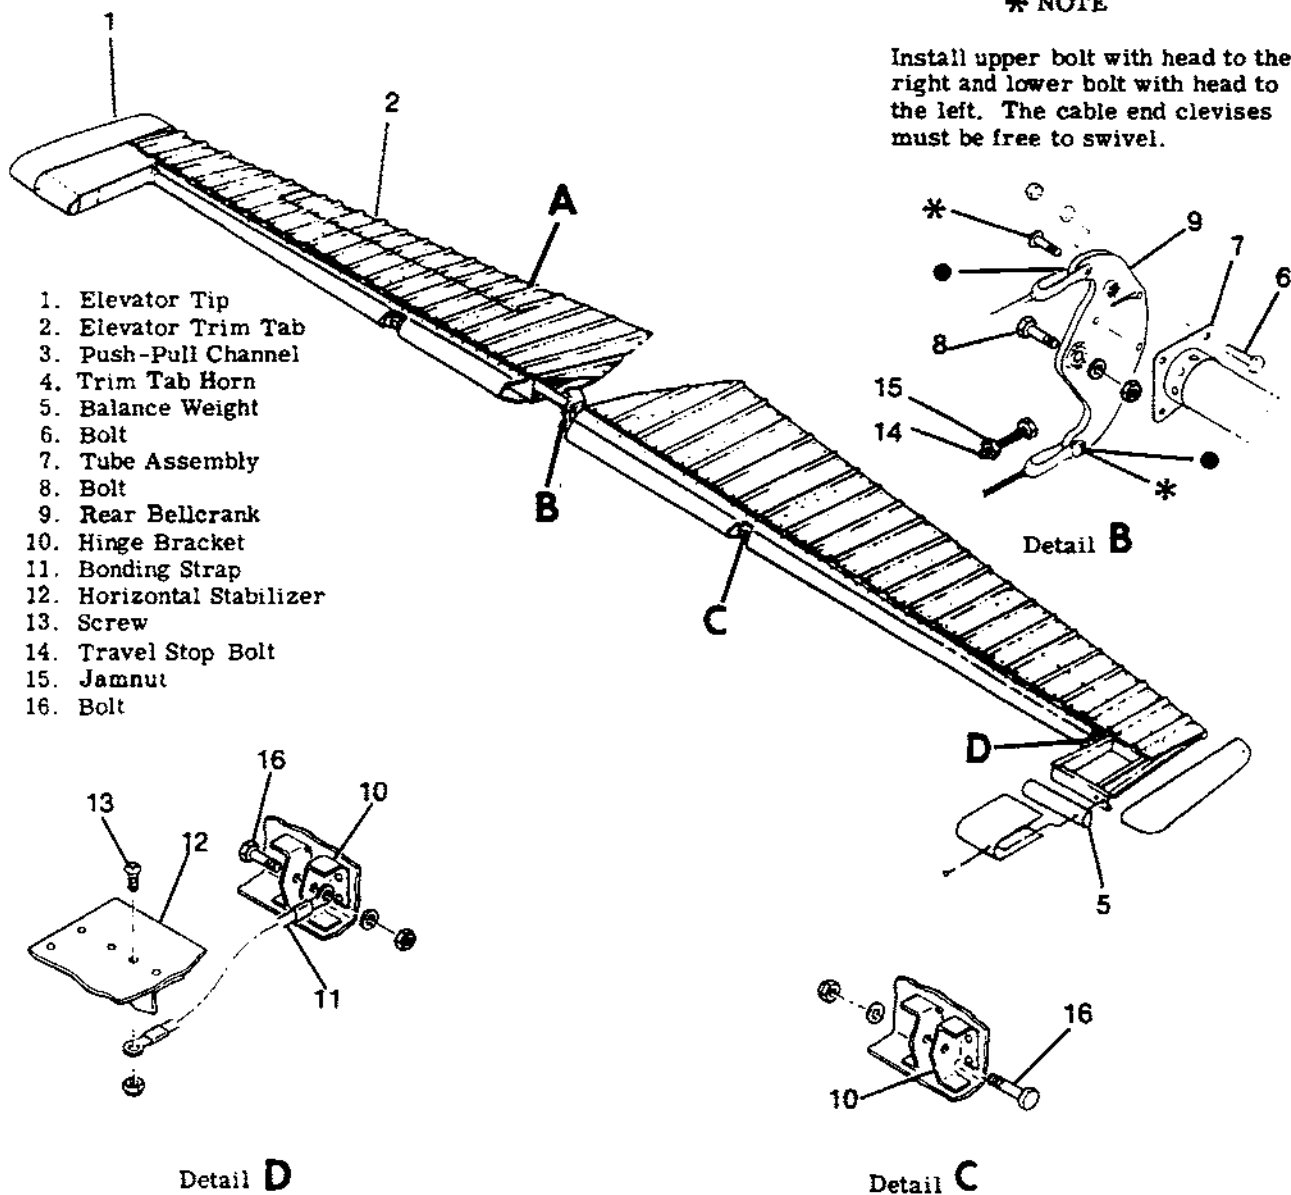

Figure 8-2. Elevator Installation
3-4. ELEVATORS. (See figure 8-2.)
8-10. REAR. (See figure 8-2.)
- e. Remove control column neutral rigging tool and adjust travel stop bolts (index 14, figure 8-2) to range of travel specified in figure 1-1.
- g. Safety turnbuckles (13) and travel stop bolts: check remainder of elevator control system for security and reinstall all items removed for access.